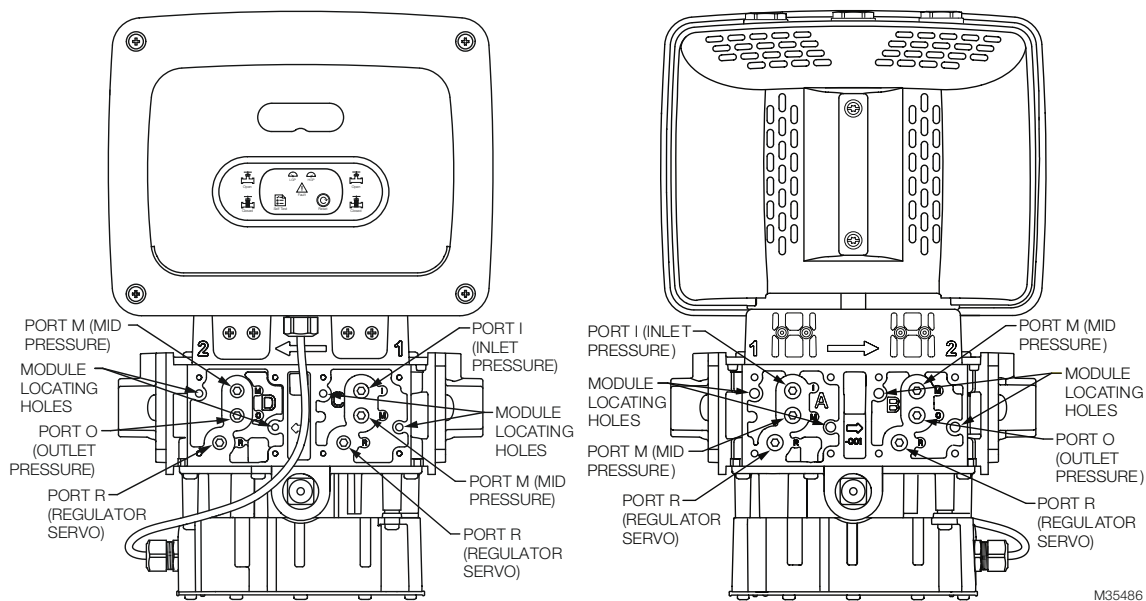

Fig. 2. Valve body and pressure ports.
V1 and V2 valve seat pressure port locations on both sides of the valve are shown in Fig. 2. Pressure Module placement and associated functionality can be found in Table 1. Available mounting locations and functions are valve model and intelligence level dependent.
2. Select the correct pressure access location (A/B/C/D) and correct pressure port to open. Refer to Table 1 and Fig. 2.
2. Remove the appropriate pressure port plug (O or M) from the side of the valve body as identified in Table 1 and Fig. 2 using the appropriate tool.
4. Assemble the Pressure Module to the valve body by mating its two locating posts into the valve body locating holes. Refer to Fig. 2.